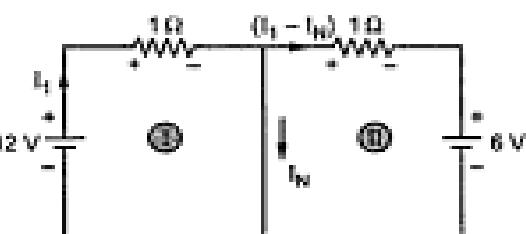

Fig. 2.75 (a)
Step 4 : Norton's equivalent is shown in the Fig. 2.75 (b).